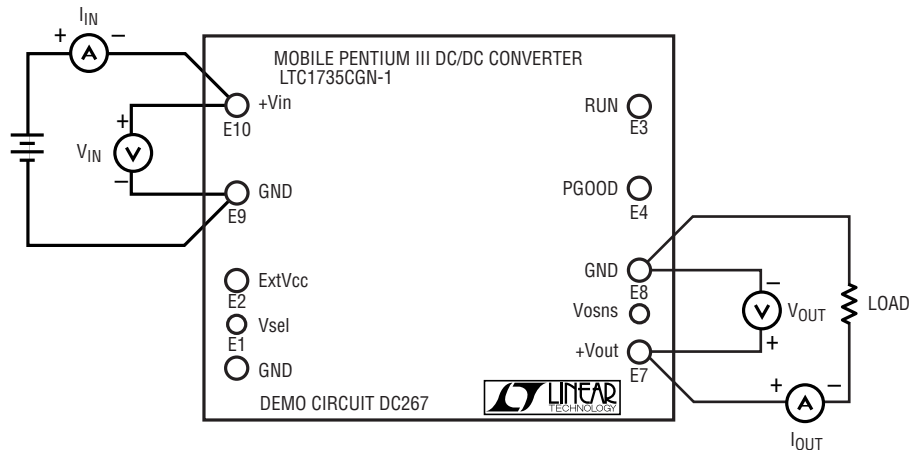

Figure 1. DC267 Test and Measurement Setup
It is easy to set up DC267 to evaluate the LTC1735CGN-1 under different load and line conditions. Follow the procedure outlined below and refer to Figure 1 for proper setup.
1. Before turning on the power, connect the input power source, output load and meters as shown in Figure 1. It is important to use good quality digital multimeters, preferably true RMS types. Connect the voltmeters directly to the terminals on the demo board. Connecting the voltmeters elsewhere may result in significant measurement errors.